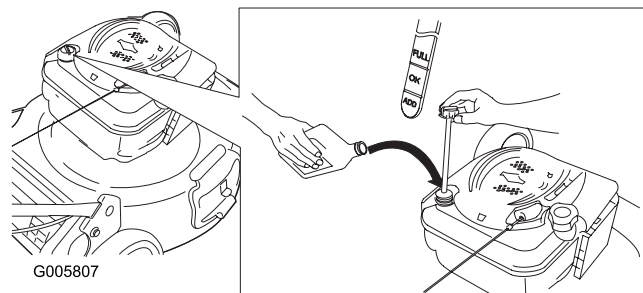

Figure 6
1. Remove the dipstick (Figure 6).